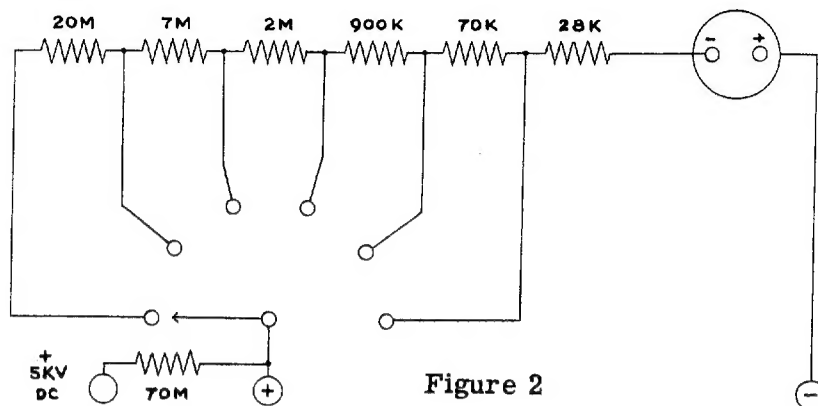

Figure 2
**Reverse Polarity, DC Volts:** The last position of the function switch is so wired that it effectively reverses the meter connections to the circuit. It affects only the DC volt and current ranges, there being no point in extending the system to cover AC volts or resistance ranges. The circuit eliminates the necessity of changing test lead connections when alternately measuring positive and negative voltages or when measuring current flow in more than one direction. Figure 2 shows the simplified circuit of the reverse polarity range of the MM-1.